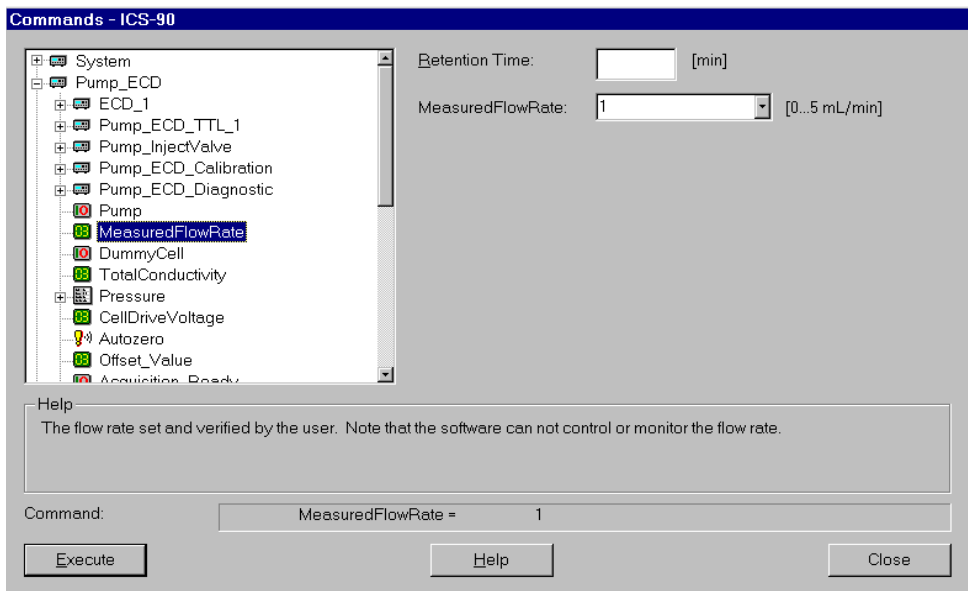

Figure B-21. ICS-90 Chromeleon Commands: MeasuredFlowRate
2. Click the plus sign next to **Pump_ECD** to display the items underneath. Select **MeasuredFlowRate** (see Figure B-21).